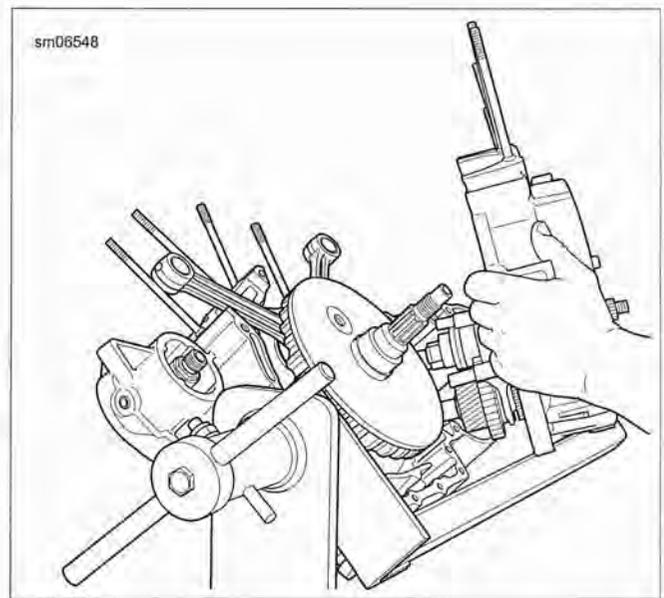

Figure 3-108. Separating Crankcase Halves
6. See Figure 3-108. Tap crankcase gently with rawhide mallet to loosen and separate the halves. Remove left crankcase assembly with transmission.